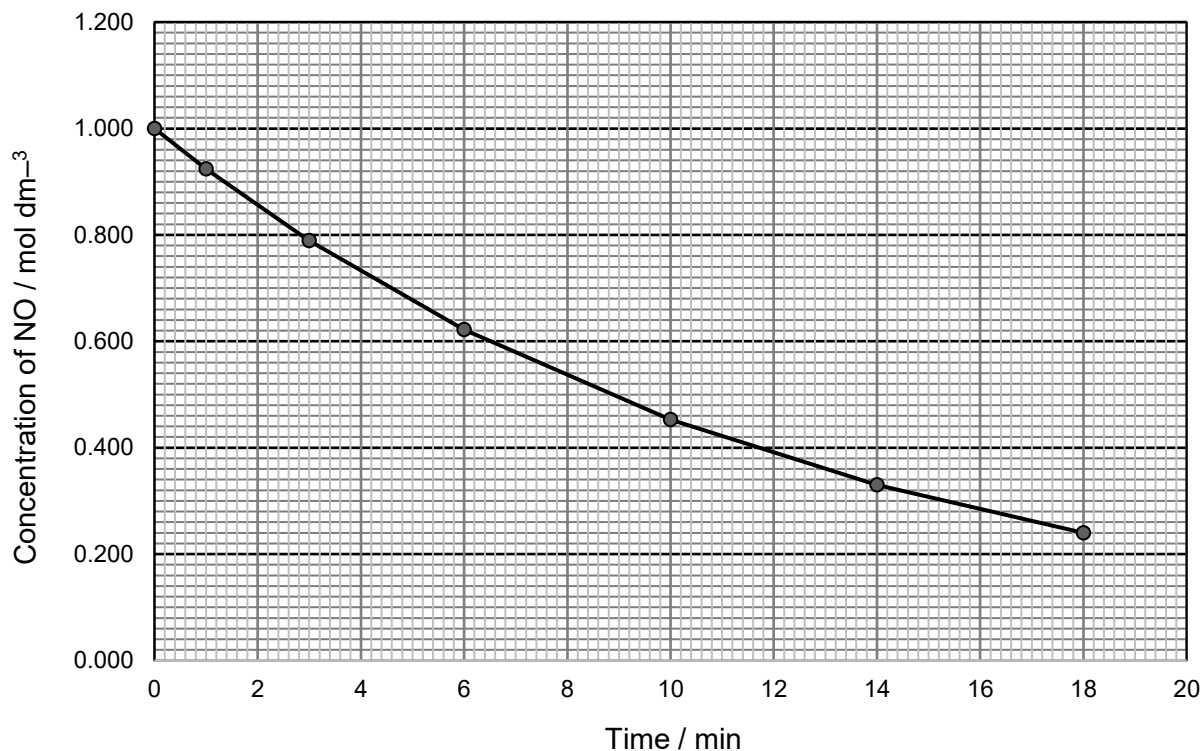

Fig. 8.1
An experiment was conducted in a container with constant volume to monitor the concentration of NO over time. O₃ was used in excess. Fig. 8.1 shows the graph obtained.
(i) Using the data in Fig. 8.1, show that the order of reaction with respect to NO is one.
- (v) Suggest how the half-life of the graph in Fig. 8.1 will change when